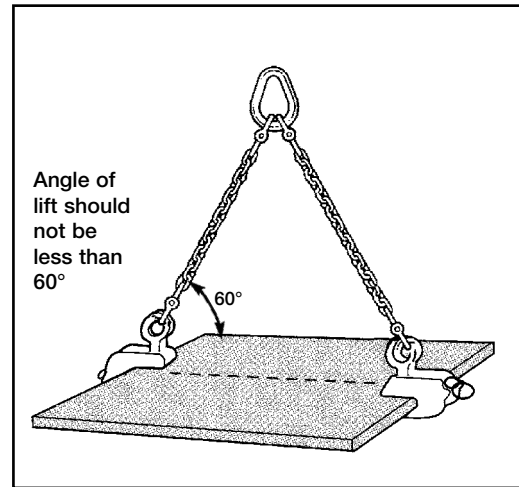
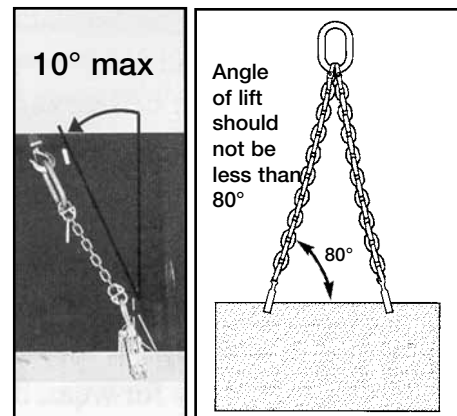

Figure 19
Figure 20
Determine if more than one sling is required to balance the load (Fig. 19). When the size or shape of a plate or fabricated section is too large for one clamp to properly balance the load, the use of a multiple sling or spreader bar is required.
- B. The lifting angle (Fig. 19) between the sling legs on opposite sides of the load should be less or equal to 60 degrees. The lifting angle (Fig. 20) between the sling legs on same side of the load should be less or equal to 20 degrees.
Position the clamp(s) to balance the load. Position the clamp(s) so the lifting force of the crane is directly in line with each clamp's lifting shackle, and the load is evenly distributed (Fig. 20).